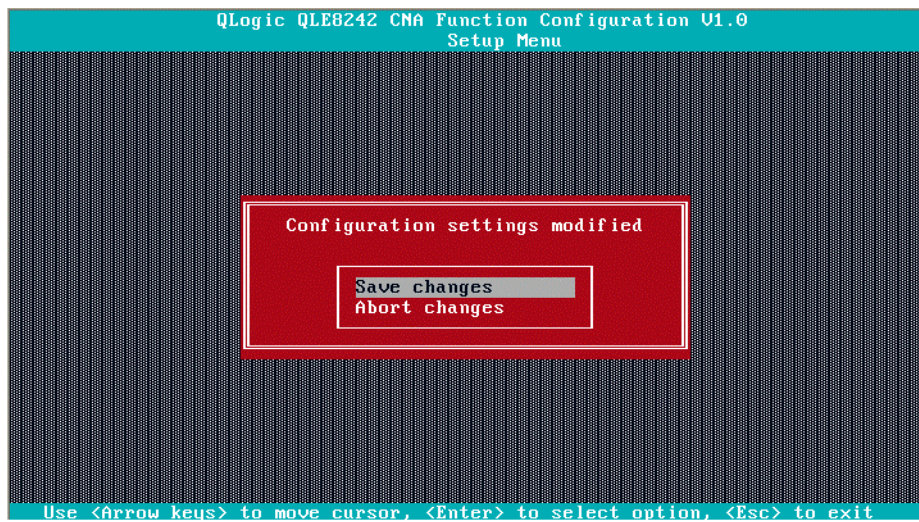

Figure 2-29. Saving Configuration Changes
5. Save your changes (Figure 2-29).